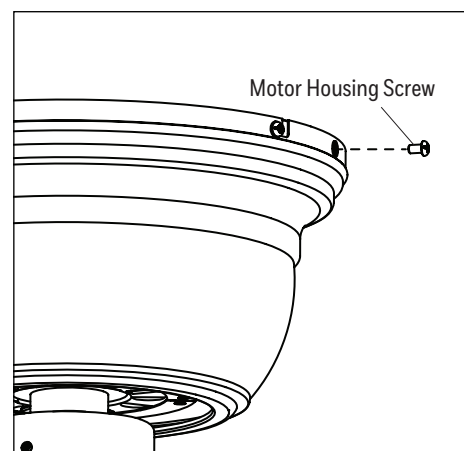

Figure 4.3
3. Slide the motor housing up over the motor, aligning the slotted holes in the motor housing with the two loosened motor housing screws in the upper mounting bracket. Twist the motor housing clockwise to lock. Then, reinstall the two previously removed motor housing screws and securely tighten all four screws (Figure 4.3).